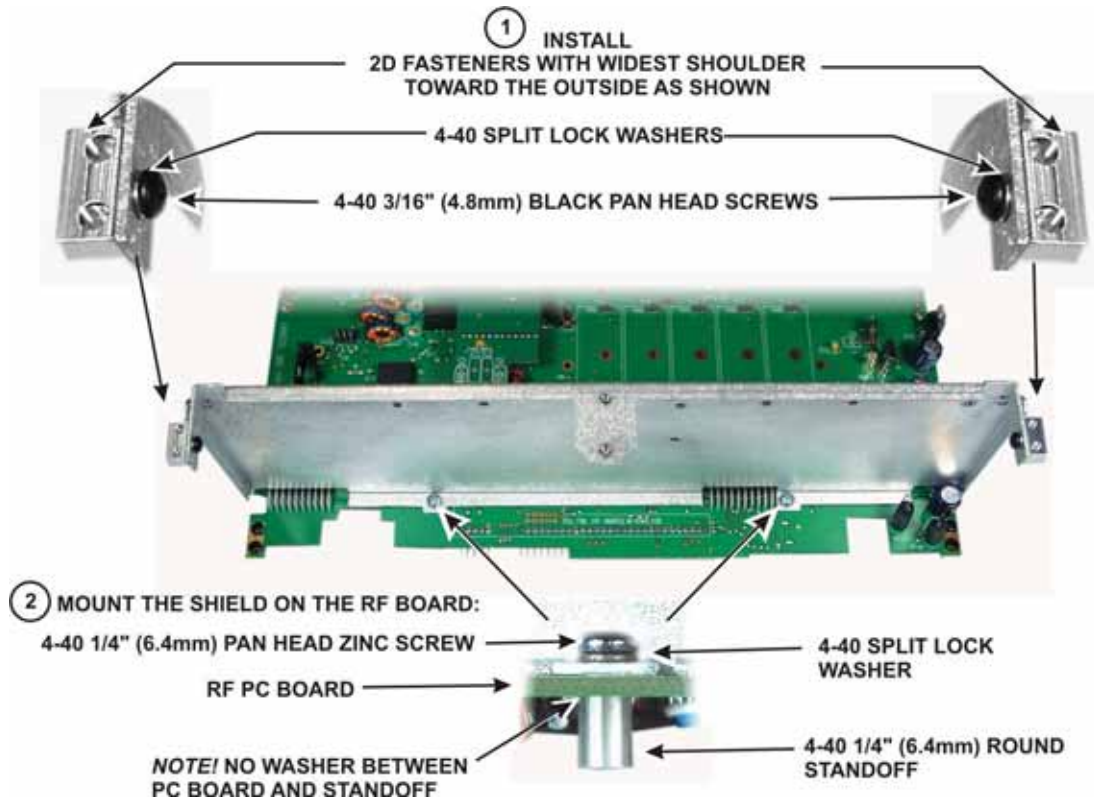

Figure 13. Installing Front Panel Shield.
□ Mount a 2D fastener on each ear of the front panel shield, then mount the shield on the RF board as shown in Figure 13. Be sure the 2D fasteners are oriented with the widest part between the two holes and the edge toward the outside as shown.